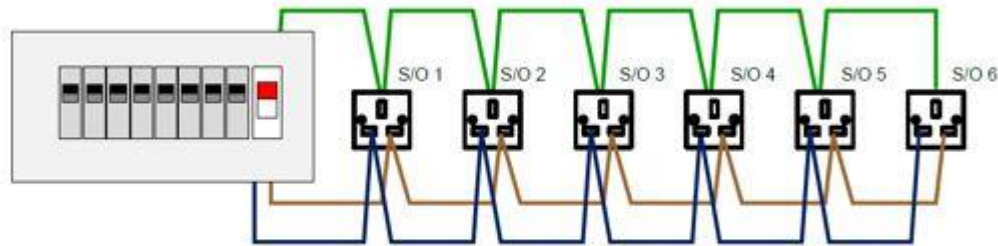

Figure 7
- 37 The radial circuit, shown in Figure 7, is installed using single core cables in PVC conduit. The installation is 5 years old and there have been no alterations or additions to the radial circuit.